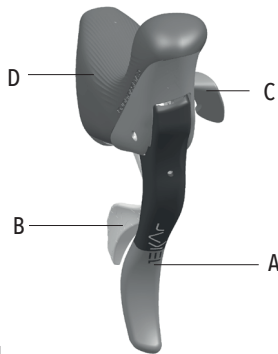

Fig.1
- Brake lever (A - Fig.1)
- External lever (B - Fig.1)
- Internal lever (C - Fig.1)
- Brake lever hood (D - Fig.1)
Moving the lever A (Fig. 1) operates the brake: check which wheel corresponds to which lever by operating each of these one at a time.